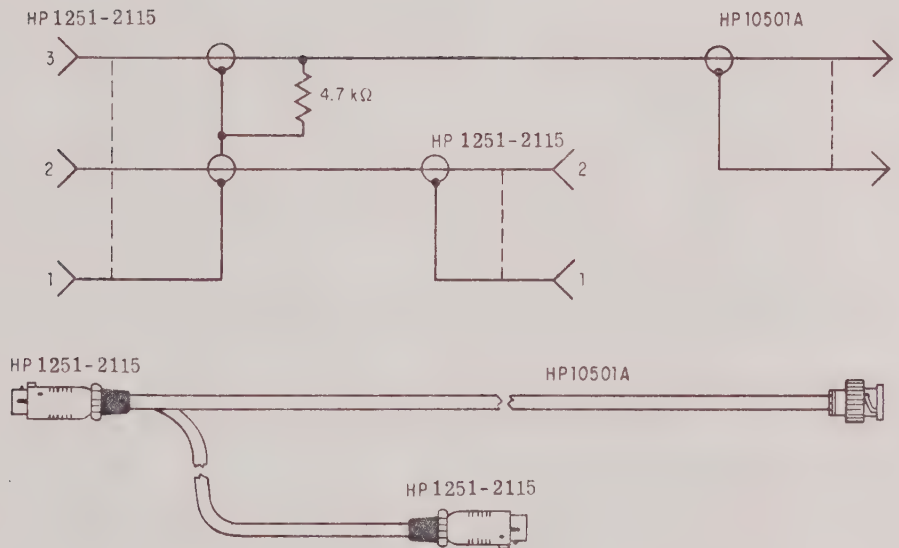
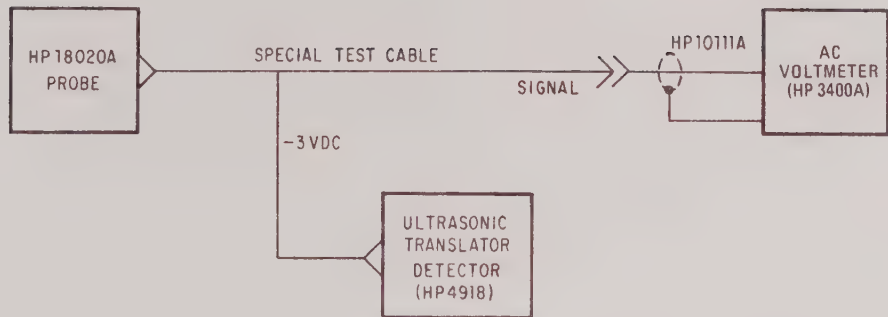

Figure 5-1. Special Test Cable
Figure 5-2. Output Noise-Level Test Setup
- a. Using the test cord shown in figure 5-1, connect the probe output to an Ultrasonic Translator Detector for probe power and to an HP Model 3400A AC Voltmeter to measure the output noise-level. (See figure 5-2.)
- a. Using the special test cord shown in figure 5-1, connect probe as shown in figure 5-2.